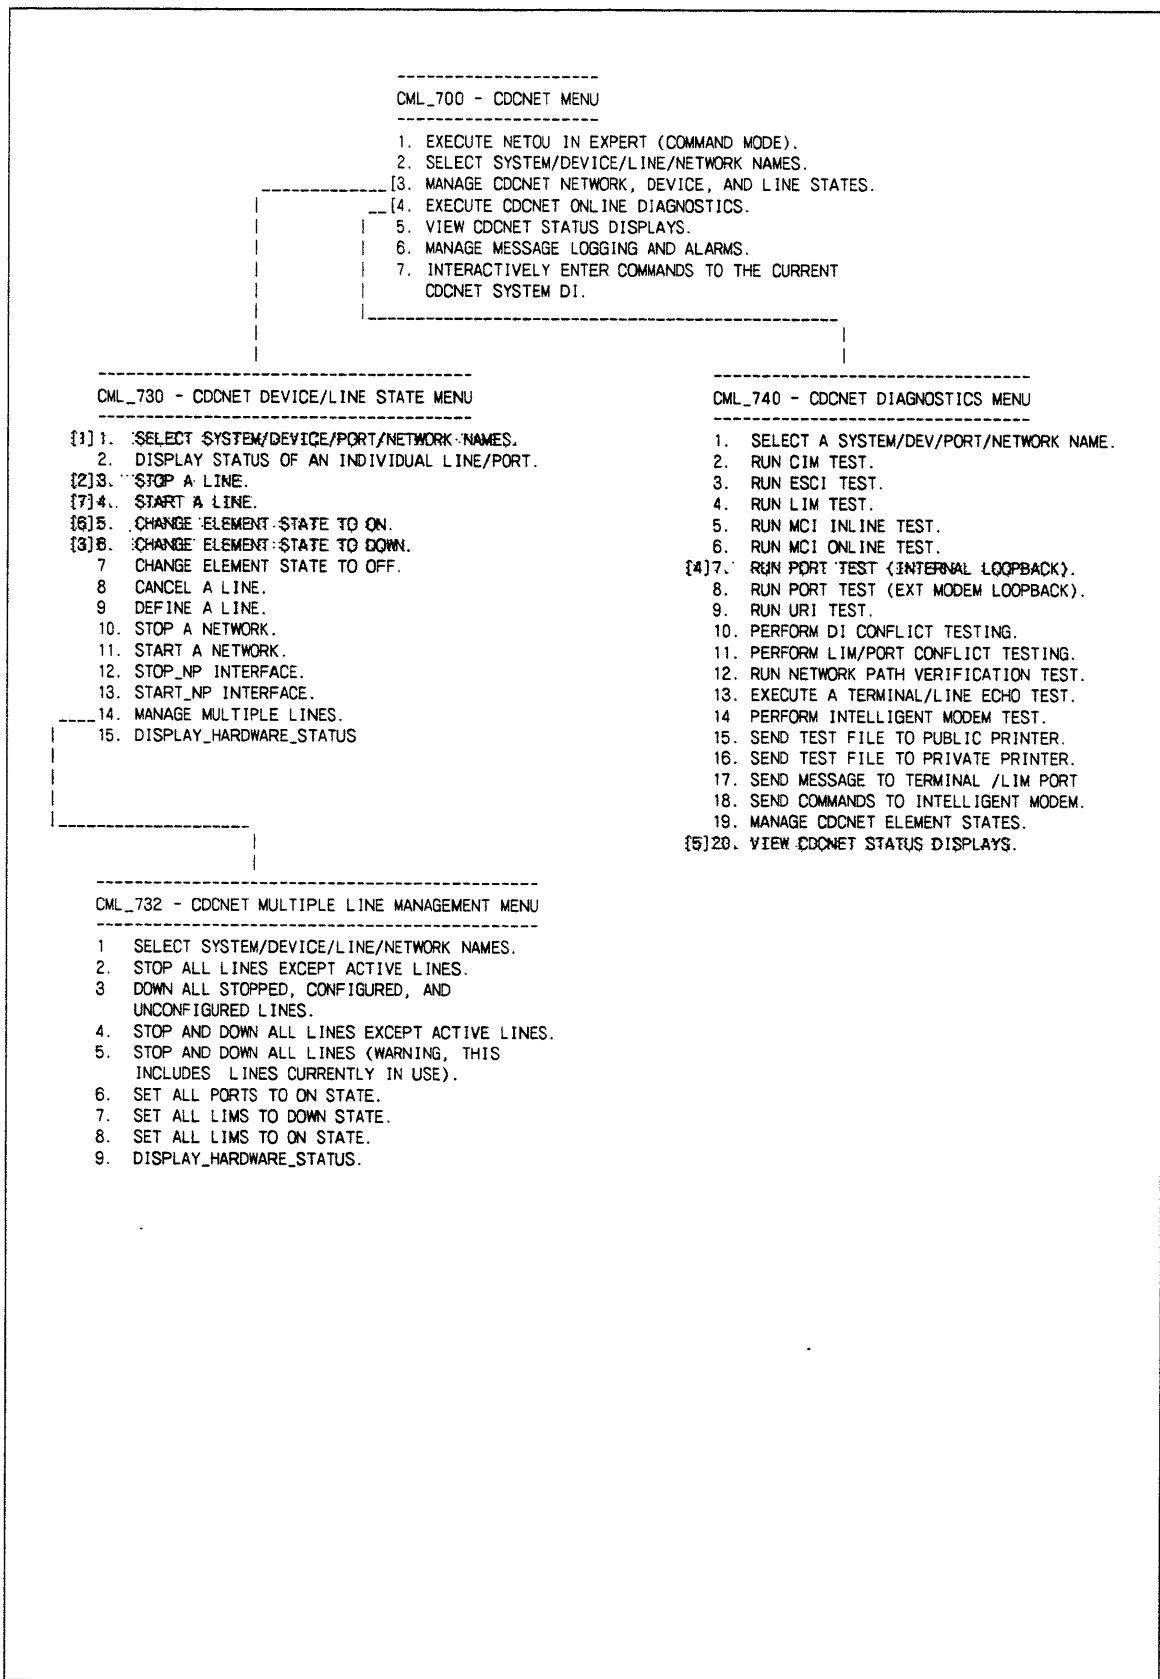

Figure 6-10. CML/VE Menus for Port Online Test
The following shows the CML/VE menu choices necessary to run the port online test. Each menu choice is shown on figure 6-10 and described below. The purpose of this topic is to serve as a quick reference for the most frequently used menu selections. See chapter 4 for a complete description of CML/VE. Familiarize yourself with the port test notes and procedure given earlier in this topic before running the test.
1. Numbers in this column correspond to the bracketed numbers (for example, [1]) on figure 6-10.